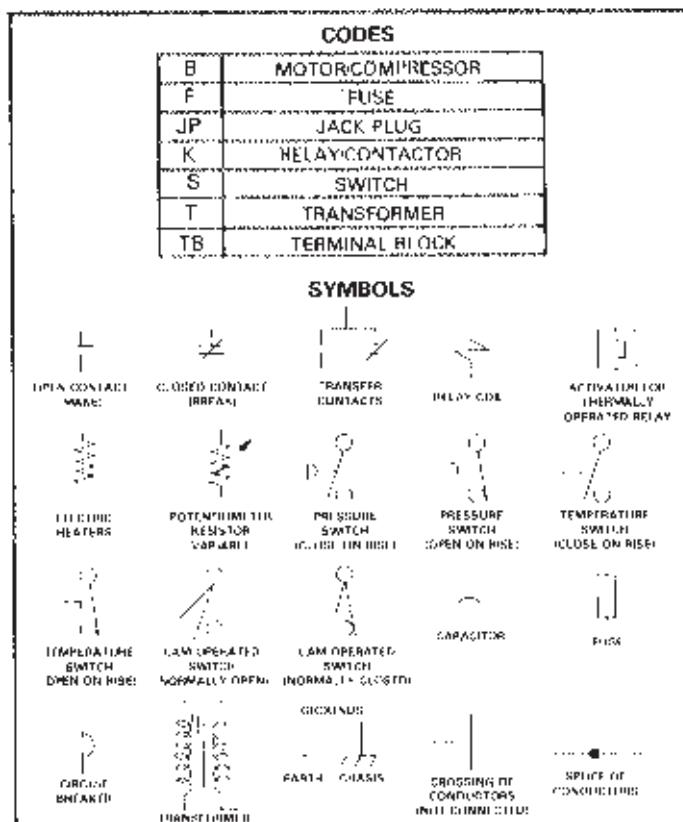

FIGURE 22
- The graphic symbols for components and code lettering conforms to the "IEEE Standard and American National Standard" of graphic symbols for electrical diagrams. All symbols and code lettering used are approved by the International Electrotechnical Commission (IEC). Refer to Figure 22 for code and symbol identification.